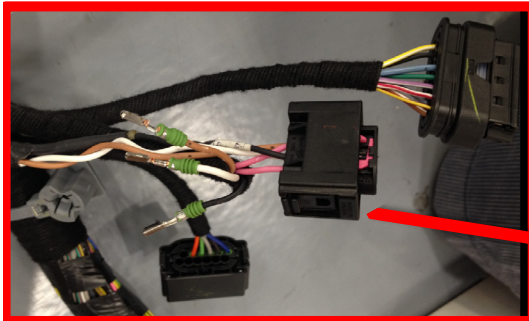
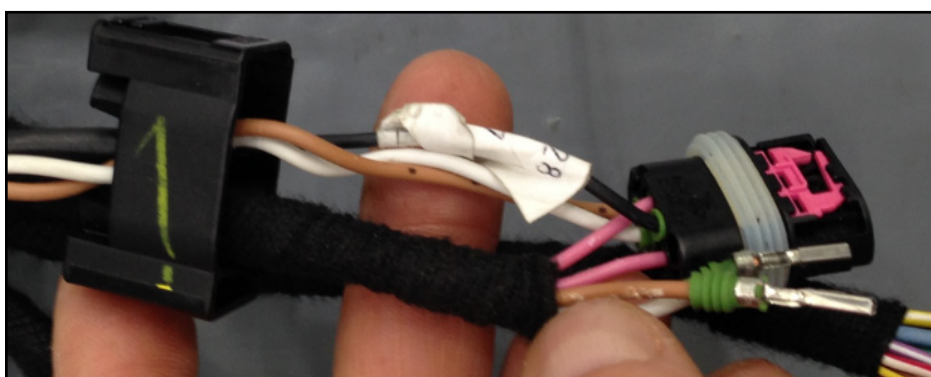

fig. 9a
fig. 9d
6. Use the TPA Insertion tool to set it in the locking position (Fig. 9a,b) back out the balck cover is removed by pushing on the tabs (fig.c) and moving it as shown in (fig. 9d).
7. Slide the pink locking tab to remove wires and insert new harness over lay (fig. 9d,e,f)